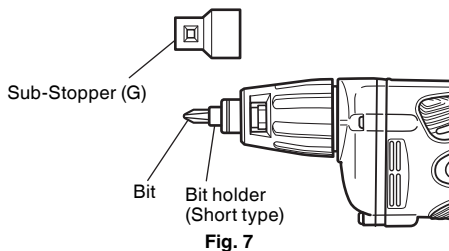

Fig. 7
2. Dismounting the bit (Fig. 7)